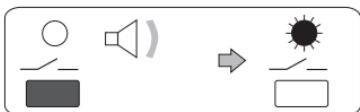

Fig. 3
- Hold down the “**—**” key until there is a brief audible signal, then release it: the control is activated and the corresponding **LED** is steady on (fig.3).